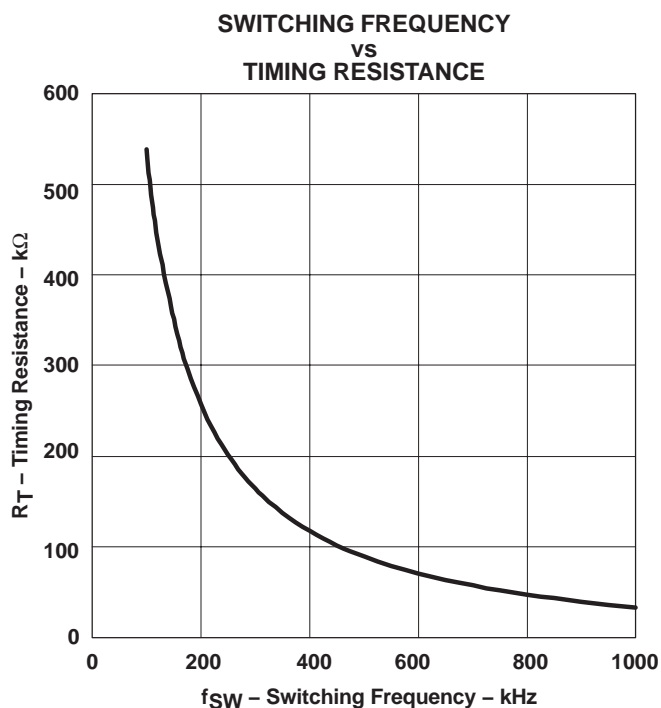

Figure 2
The TPS4005x has independent clock oscillator and ramp generator circuits. The clock oscillator serves as the master clock to the ramp generator circuit. The switching frequency, f_{SW} in kHz, of the clock oscillator is set by a single resistor (R_T) to ground. The clock frequency is related to R_T , in $k\Omega$ by equation (1) and the relationship is charted in Figure 2.